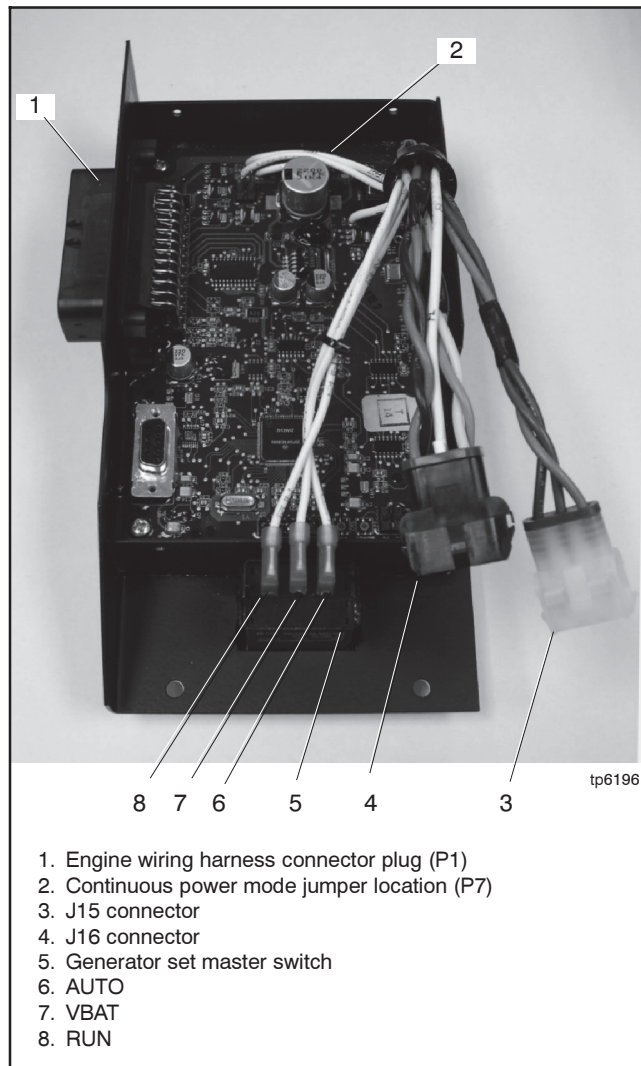

Figure 4-14 ADC 2100 (back cover removed)
A jumper across controller pins P7-1 and P7-2 maintains power to the controller at all times. Controllers are shipped with the jumper connected for continuous power. See Figure 4-14.
- a. Disconnect the engine wiring harness connector P1 plug (35-pin) from the controller. Disconnect the J15 and J16 connectors. See Figure 4-14.
- a. Note the labels on the three leads connected to the generator set master switch for reconnection later. Disconnect the leads at the pink connectors. See Figure 4-14.
- b. Remove the cover screws and remove the controller's back cover. See Figure 4-14.
4. Locate the P7 connector near the top of the controller. See Figure 4-14. Remove the jumper from pins 1 and 2 of the P7 connector. If the P7 connector has three pins, connect the jumper across pins 2 and 3 for storage.
6. Reconnect the three pink connectors to the generator set master switch as shown in Figure 4-14.
The generator set master switch is a three-position (RUN\OFF/RESET\AUTO) rocker switch. The leads connecting to the master switch are labeled RUN, VBAT, and AUTO. Check that the three pink connectors are connected to the terminals on the back of the switch as shown in Figure 4-14. Be careful not to reverse the RUN and AUTO leads.